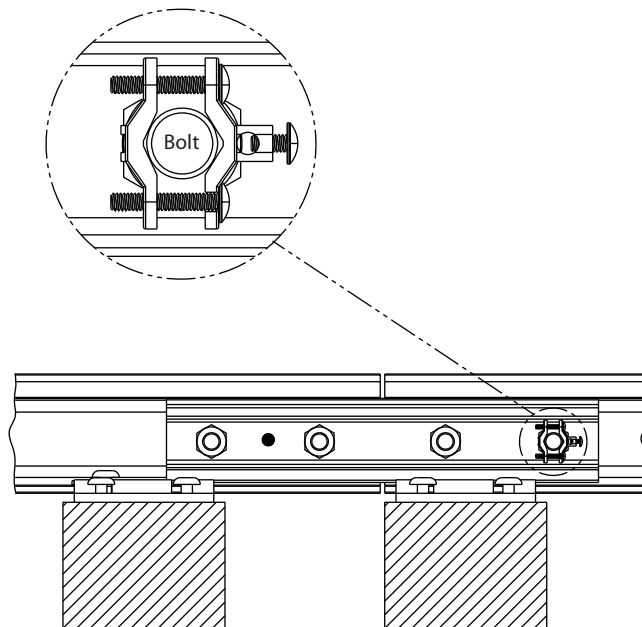

Figure 4-4. Ground Clamp Installed on Joint Bar Bolts
5. Install pipe grounding clamps on joint bar bolts (see Figure 4-4).